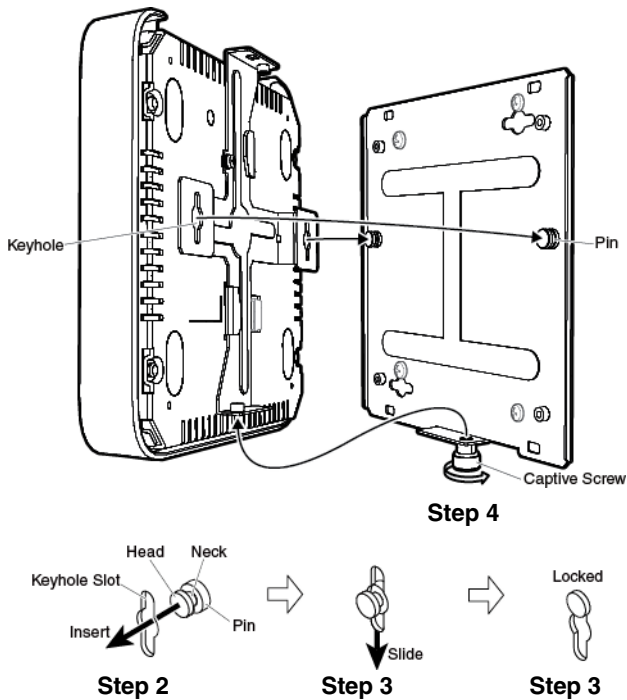

Figure 9. Attaching Access Point to Base Plate
2. Insert the two base-plate pins into the circles of the keyhole slots, as shown in Figure 9.
3. Slide the access point downward to lock the necks of the base-plate pins in the slots, as shown in Figure 9.
4. Fasten the access point to the base plate by turning the base-plate captive screw clockwise using a Phillips-head screwdriver, as shown in Figure 9 on page 30.